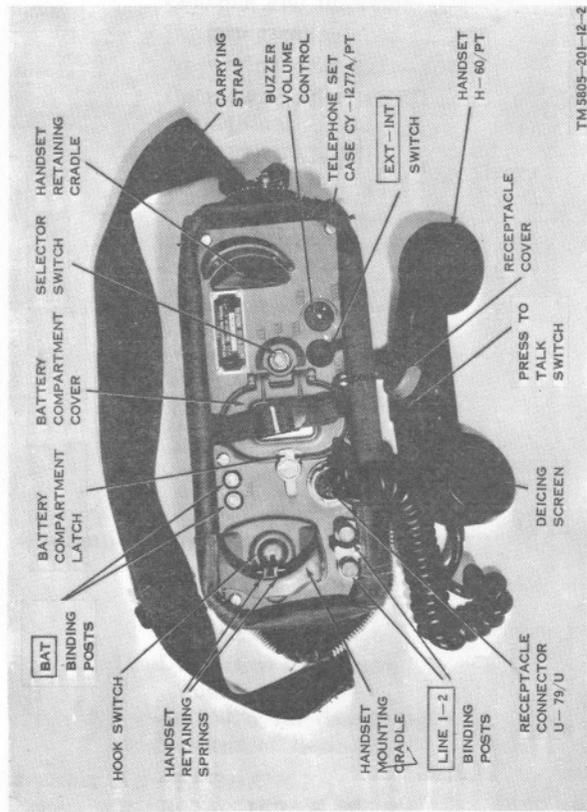
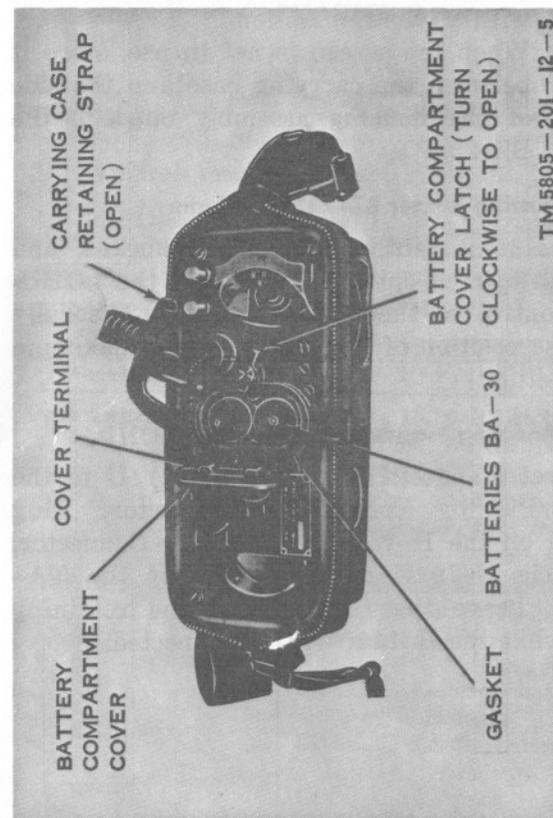

Figure 1-1. Telephone Set TA-312/PT case open, and Handset H-60/PT, removed from cradle.
Figure 2-2. Telephone Set TA-312/PT, batteries installed.
(figs. 1-1 and 1-2)
a. Use of TA-312/PT as a Desk Set. Unbuckle the carrying case retaining strap (fig. 2-2), and remove the panel and housing assembly from the carrying case. Store the carrying case for later use. Place the panel and housing assembly in a convenient location on the desk.
- (1) Unhook the end of the carrying strap on the Buzzer BZ-23/PT end of the carrying case.
- (2) Adjust the carrying strap to a length equal to the circumference of the support. For a thin support adjust it to twice the circumference to wrap it around twice.
- (3) Place the TA-312/PT against the support with the LINE 1-2 binding posts (fig. 1-1) at the top.
- (4) Wrap the carrying strap around the support, and secure the free end to the upper ring on the carrying case.
- (5) Wrap a length of field wire around the support and through the lower loop of the carrying case, and tie it securely in place.
- (1) Remove the BA-30's from the battery compartment.
- (2) Connect a 3-volt battery source to the BAT binding posts on the panel.
f. Installing Batteries BA-30 (fig. 2-2).
- (1) Remove the H-60/PT from the retaining cradle, and open the carrying case retaining strap.
- (2) Rotate the battery compartment cover latch clockwise until the cover is released. Lift the cover to expose the battery compartment.
- (3) Insert two Batteries BA-30 in the battery compartment, one with the positive terminal up, and the other with the positive terminal down.
- (4) Close the cover, and turn the cover latch counterclockwise to lock the cover closed.
- (5) Refasten the carrying case retaining strap over the battery compartment, if the TA-312/PT is to be kept in the carrying case.